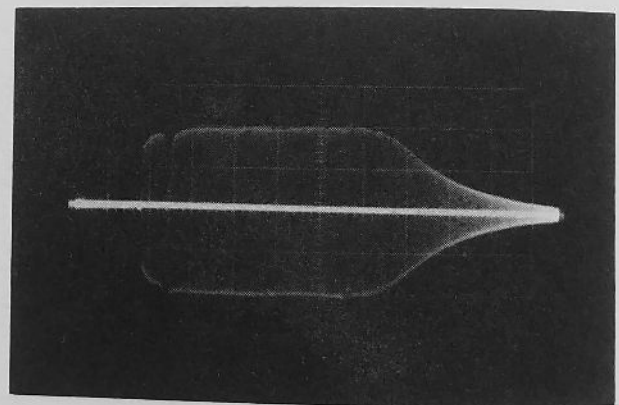

Figure 20. Output, Blue and Green, Marker at 5.5 MC
10. Connect the scope to the BLUE output jack, 1J4. Adjust 1L6 and 1L7 for the response shown in Figure 20. (Maintain the same signal conditions as in step 8.)
11. Connect the scope to the GREEN output jack, 1J3. Adjust 1L2 and 1L3 for the response shown in Figure 20. (Maintain the same signal conditions as in step 8.)